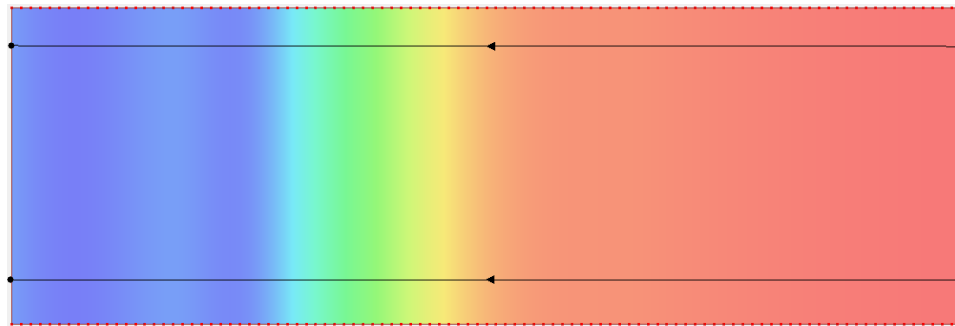

Figure 4 Geometry with two profile arcs created, with deep water on the right
3. Using the **Create Feature Arc**  tool, create a profile arc near the top of the scatter set, starting from deep water and ending in shallow water or land, as in Figure 4. Make certain the transect nodes are inside the scatter set area.